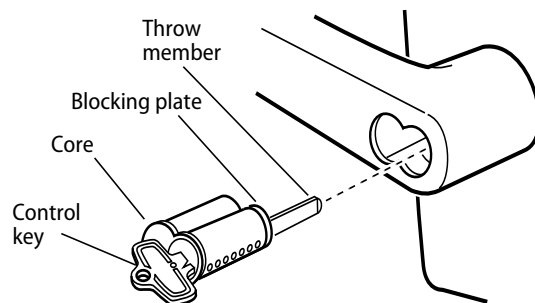

Figure 17 Installing the core
- 2 Install the blocking plate onto the throw member, then install the throw member in the core. See Figure 17.